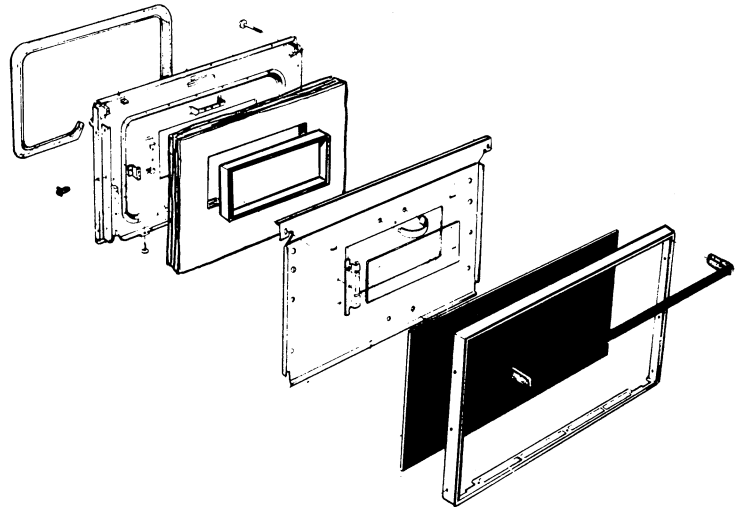

Figure E6
- The outer panel may now be removed showing the screws holding the inner glass or panel. (See Figure E6)